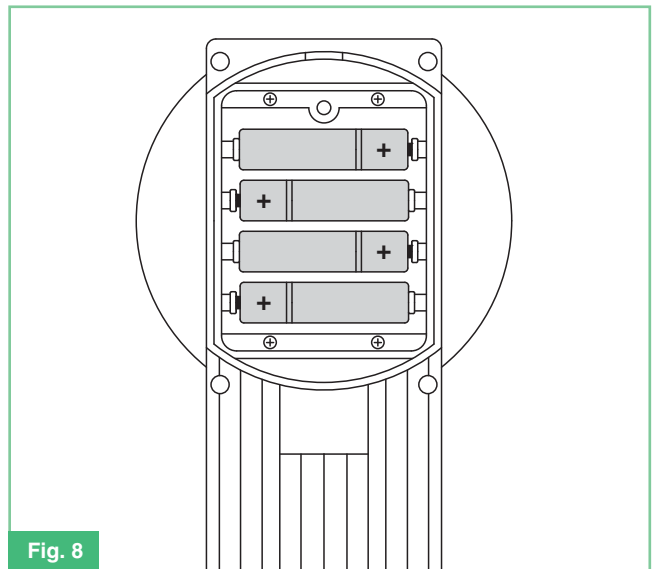

Fig. 8
3. Replace the batteries with fully charged batteries, taking care to fit them the right way round as shown in the battery compartment (figure 8).